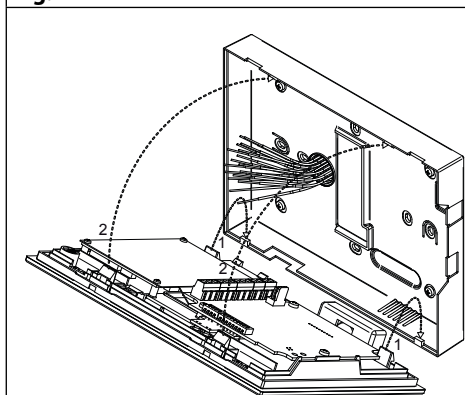

Fig. 7
3. Connect the wires using a flat screw driver then setup the dip-switches as per provided connection diagram or instruction sheet and fix the front part of the videophone to the back cover as shown in **Fig. 7**: hook first the bottom side then rotate the front part and hook the upper side;